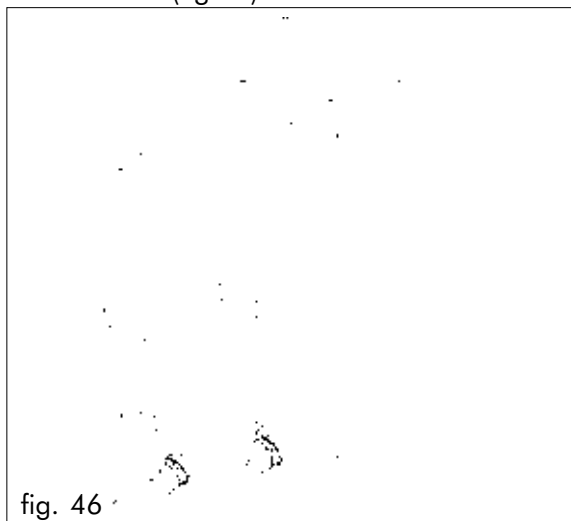

fig. 46
- Remove all the product containers from the distributor (fig.46).